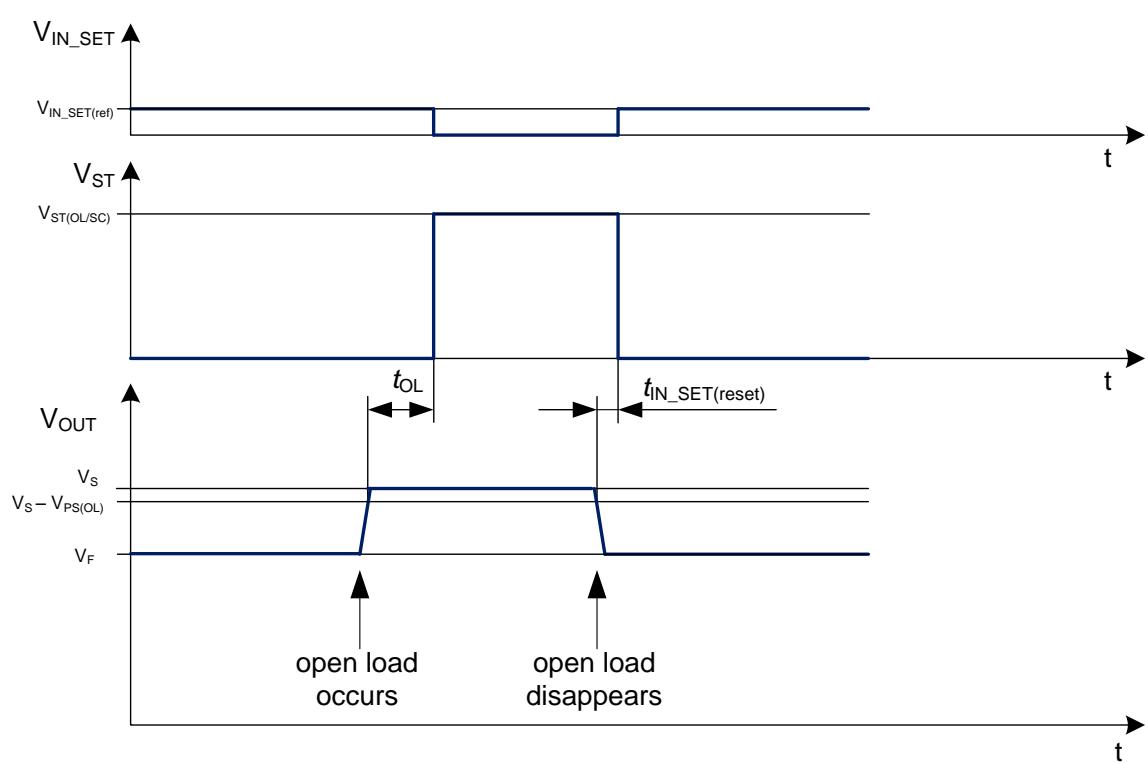

Figure 40 Open Load Detection and recovery timing (ST pin diagnosis)
- The diagnostic condition for OL or SC to ground is not latched, the output will function normally again after the fault is removed. The ST pin will transition to an unfaulted state after a delay of  $t_{IN\_SET(reset)}$  as shown in Figure 40.